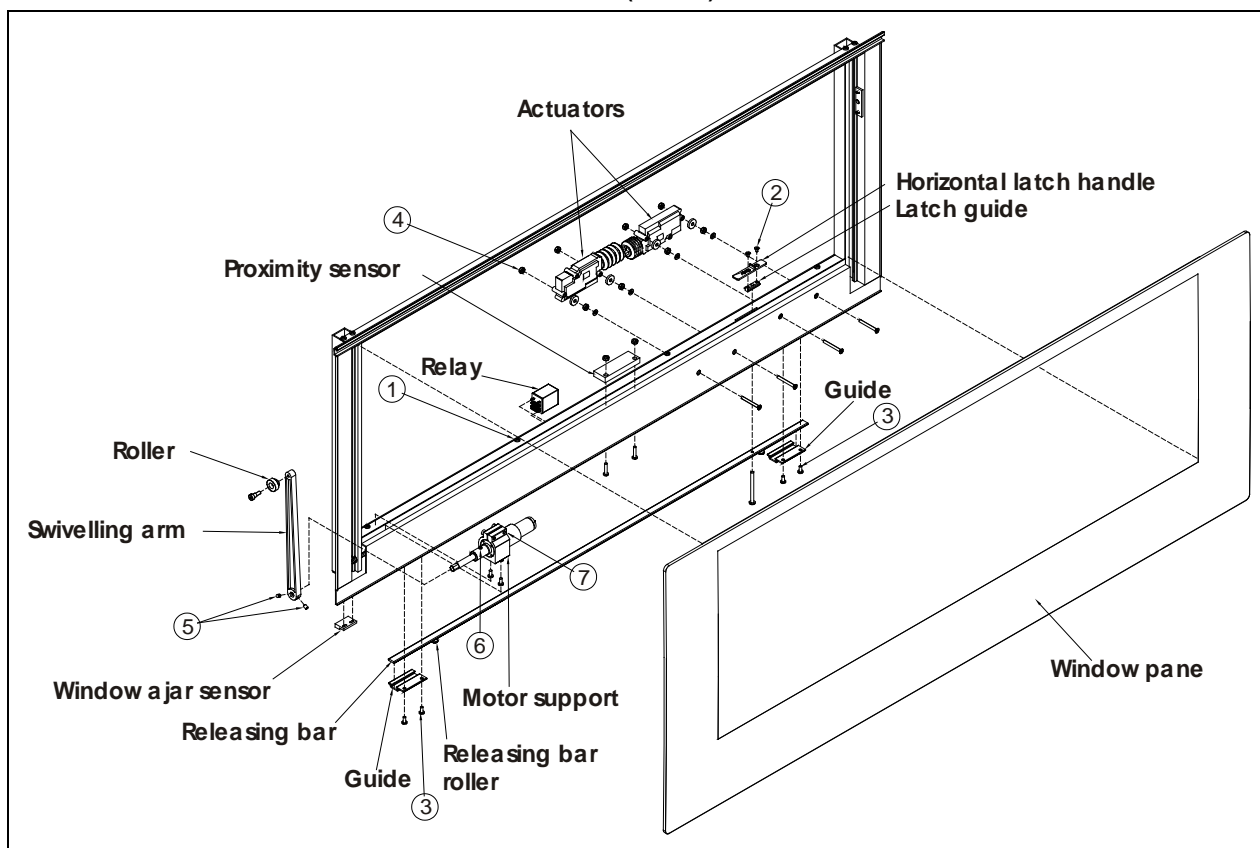

FIGURE 39: ELECTRIC AWNING WINDOW EXPLODED VIEW (SASH)
- 4. Loosen the set screws #5 (Figure 39) (rotate the arm to get to the second set screw) and disengage the swiveling arm from the motor shaft extension.